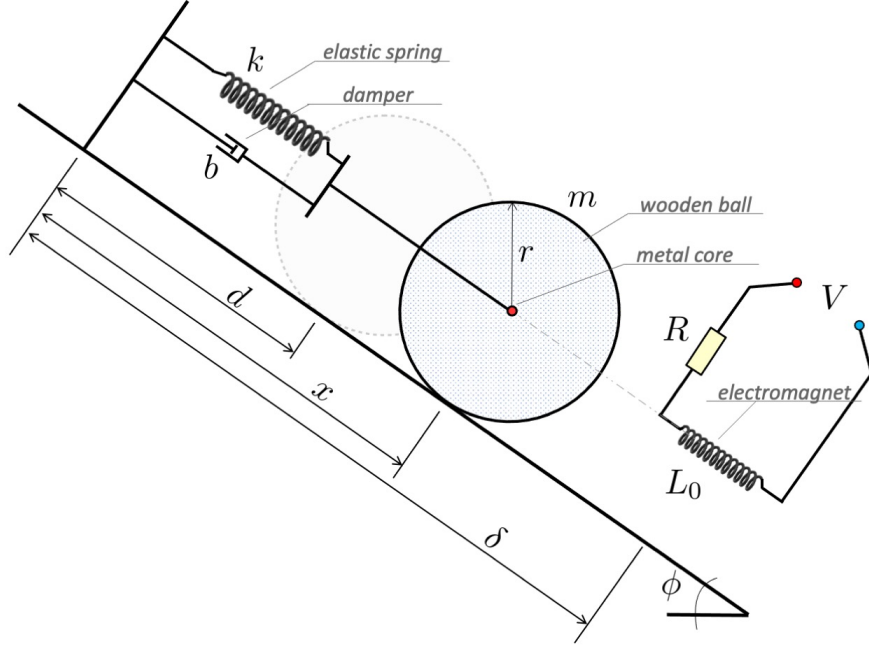

Figure 1. System of a wooden ball on an inclined plane. The ball can be attracted downwards by an electromagnet, which is controlled by the voltage V .
- (1) Read the document “how to write a good technical report,” which is available on Canvas (go to Modules > Control: Materials)
- (2) Prepare your report using the L^AT_EX template provided on Canvas (you can use your own L^AT_EX template if you prefer). You may use MS Word, LibreOffice Write or other similar word processing software, but it will be significantly more difficult and time-consuming to write equations and the final result will, most likely, not be of the best possible quality. Handwritten reports will not be accepted.
- (3) Compile your report into a single PDF file (you will not be able to upload `doc(x)` or other files).
- (4) Each team needs to upload a single PDF file.
- (5) The maximum length of your report should be 10 A4 pages using the above template. Realistically, you do not need to exceed 8 pages. In order not to exceed the page limit use the L^AT_EX template provided (a figure about the size of Figure 1, or even smaller, is perfectly legible).
- (6) Submit your report to Canvas before the above deadline. If you experience any exceptional circumstances, contact the advisor of studies and submit an EC request.
- (7) Start by reading the assignment. Have a kick-off meeting to decide how you will work as a team, how the various tasks will be distributed, how you will share your code, and how everyone will be able to contribute to the report.
1.1. **System.** Consider the system shown in Figure 1.
A wooden ball of total mass m and radius r is placed on an inclined plane, which is at an angle ϕ with respect to the horizontal plane as shown in Figure 1. The ball can roll on the inclined plane without sliding. The ball is connected to an elastic spring of stiffness k and a linear damper with viscous damping coefficient b . Let x denote the distance of the centre of the ball from the wall. When $x = d$, the spring is at its natural length and no restoring force is applied. The ball is considered to be approximately isotropic.
At the centre of the ball there is a metal core of very small radius which can be attracted by an electromagnet (which is essentially an inductor). The centre of the electromagnet is positioned at $x = \delta > d$. This inductor is connected in series with an Ohmic resistor of resistance R and a voltage V is applied to the circuit as shown in Figure 1. The nominal inductance of the inductor is L_0 ; however, as the ball approaches at a distance y from the centre of the inductor, its inductance increases and is given by